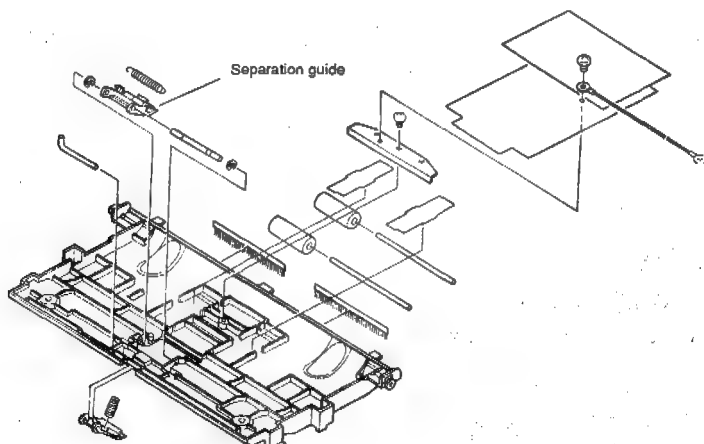

Fig. 4-4-37
4. Remove the separation guide, while referring to Fig. 4-4-37.